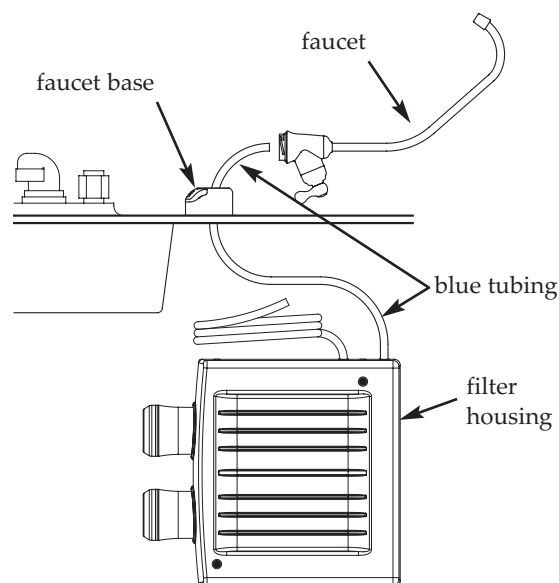

Figure 6
2. Locate the blue tube. One end is attached to the filter housing. Feed the other end up through the mounting hole and faucet base. See Figure 6.